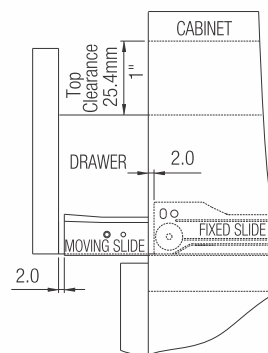

Fig. 2 SIDE VIEW
2. 25.4mm(1") clearance from top edge of drawer required to tilt and remove drawer (Refer Fig. 2).
3. Fixed and moving slide should be equally offset by 2mm for Auto-Closing (Refer Fig. 2).